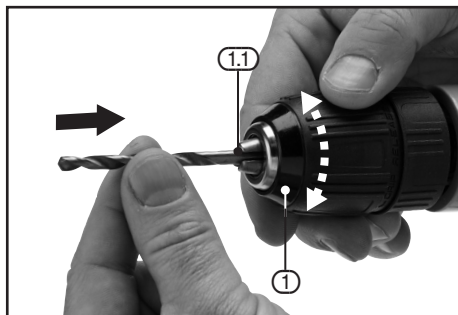

FIG.5
9.1 INSTALLING AND REMOVING DRILL BITS – FIG.5
- Whilst gripping the base of the chuck (1), turn the chuck end anti-clockwise to open up the chuck jaws (1.1).